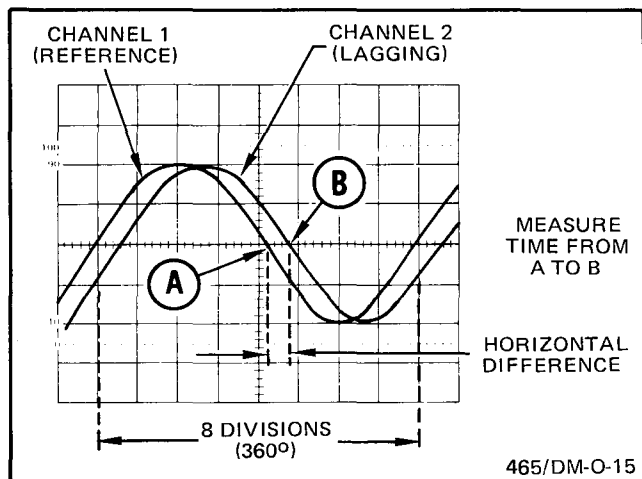

Fig. 2-11. Phase difference.
6. Turn the variable (X1-X10) SEC/DIV control until one cycle of the reference signal (Channel 1) occupies exactly eight divisions between the first and ninth graticule lines (see Fig. 2-11). Each division of the graticule represents  $45^\circ$  of the cycle ( $360^\circ \div 8 \text{ divisions} = 45^\circ/\text{division}$ ).
Assume a horizontal difference of 0.6 division with a sweep rate of  $45^\circ/\text{division}$  as shown in Fig. 2-11.